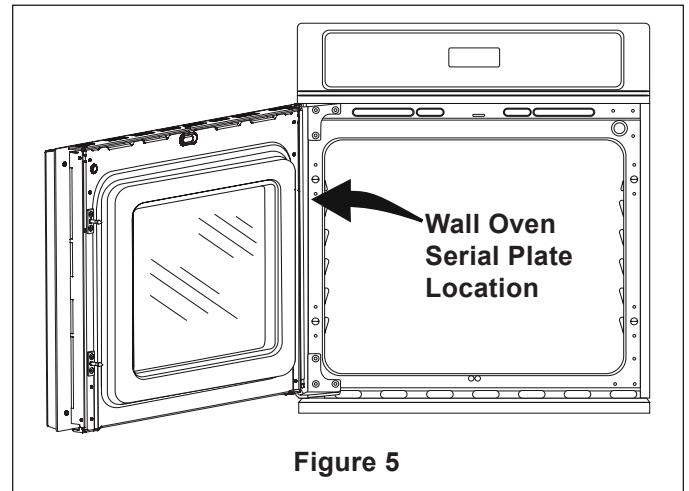

**Figure 4**
This appliance is manufactured with a white neutral power supply and a frame connected copper wire. The frame is grounded by connection of grounding lead to neutral lead at the termination of the conduit, if used in USA, in a new branch circuit installation (1996 NEC), mobile home, recreational vehicles, where local code do not permit grounding through the neutral (white) wire or in Canada, disconnect the white and green lead from each other and use ground lead to ground unit in accordance with local codes, connect neutral lead to branch circuit-neutral conductor in usual manner see Figure 4. If your appliance is to be connected to a 3 wire grounded junction box (US only), where local code permit connecting the appliance-grounding conductor to the neutral (white) see Figure 3.
If oven is used in a new branch circuit installation (1996 NEC), mobile home, recreational vehicle, or where local codes DO NOT permit grounding through the neutral (white) wire, the appliance frame **MUST NOT** be connected to the neutral wire of the 4-wire electrical system. (see figure 4):
3. In the junction box: connect appliance and power supply cable wires as shown in Figure 4.